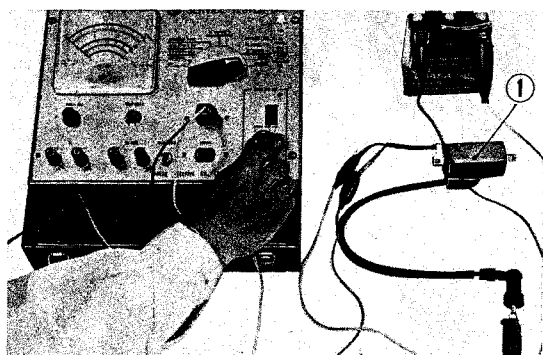
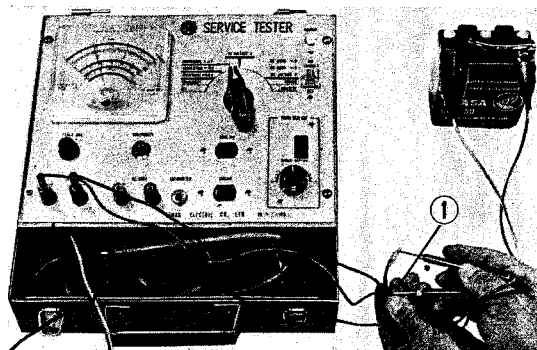

Fig. 156 Ignition coil test
Fig. 158 Condenser test
- ① Perform functional test of the ignition coil to determine its condition. When poor starting is experienced, the cause may also be found by testing the spark plug, contact breaker points, condenser, etc.
- ② Check the ignition coil using the service tester.
- ③ Connect the battery power source to the tester and ground the grounding lead. (Fig. 156)
① Separator plate ② Cathode plate ③ Separator plate
④ Glass mat ⑤ Anode plate
- ④ Connect the ignition primary cord to the tester and connect the opposite terminal end to the primary terminal of the coil. Connect the white lead with (V) type plug to the blue terminal of the ignition coil (primary side) and the red tester lead to the black terminal of the ignition coil. (Fig. 156)
- ⑤ Connect the red tester high tension cord to the high tension cord of the ignition coil.
- ⑥ Turn the selector knob to the COIL TEST position.
- ⑦ Adjust the three point spark tester to maintain maximum distance of spark by turning the control knob while observing the spark condition and then measure the spark distance.
- ⑧ If the spark plug distance is less than 6 mm (0.24 in.), the spark plug is un-serviceable.
2) Condenser test (Fig. 158)